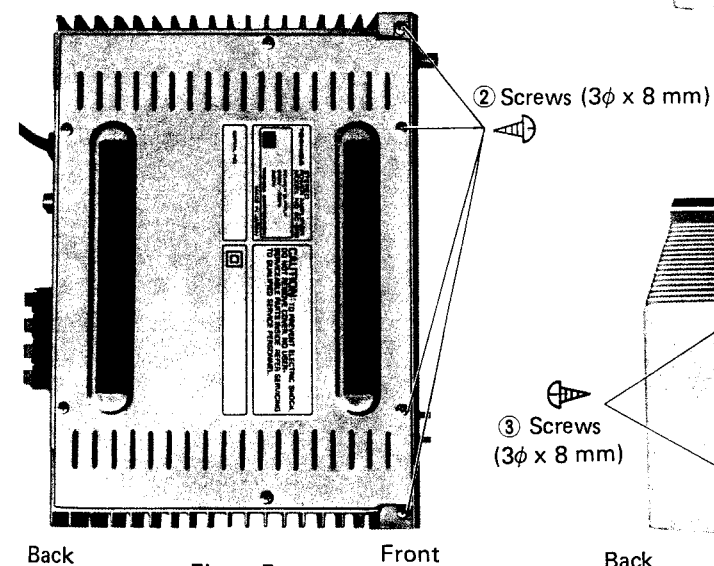

Figure 5.
2. Remove the four screws ② (3φ x 8 mm) on the bottom plate side as shown in Figure 5.
1. Remove the four BID tapping screws ③ (3φ x 8 mm) on the jack plate as shown in Figure 5.
2. Remove the two BID tapping screws ④ (3φ x 8 mm) holding the speaker terminals as shown in Figure 5.